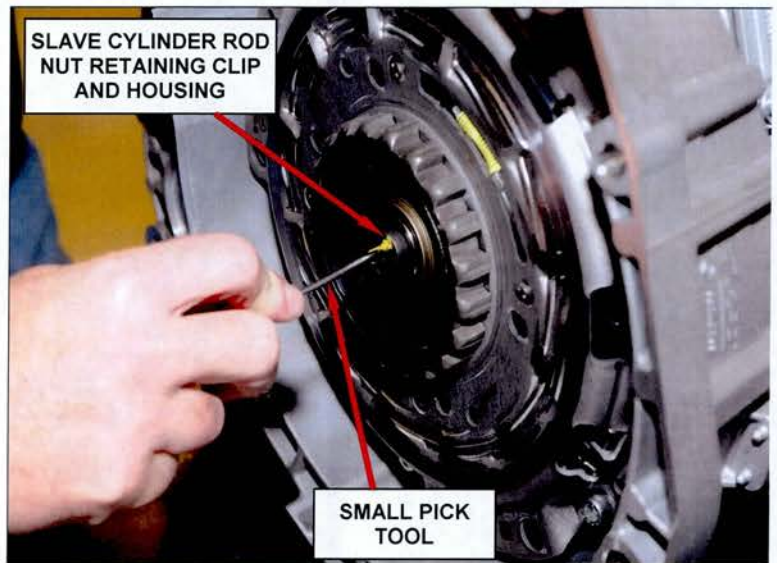

Figure 12 – Remove the Slave Cylinder Rod Nut Retaining Clip and Housing
41. Using a small pick, remove and save the slave cylinder rod nut retaining clip and housing (Figure 12).